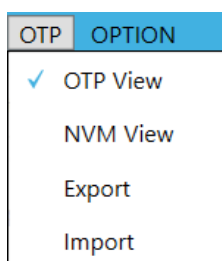

Figure 13: Select OTP View
3. Select “OTP View” from the OTP drop-down menu to enter OTP and MTP view (see Figure 13).